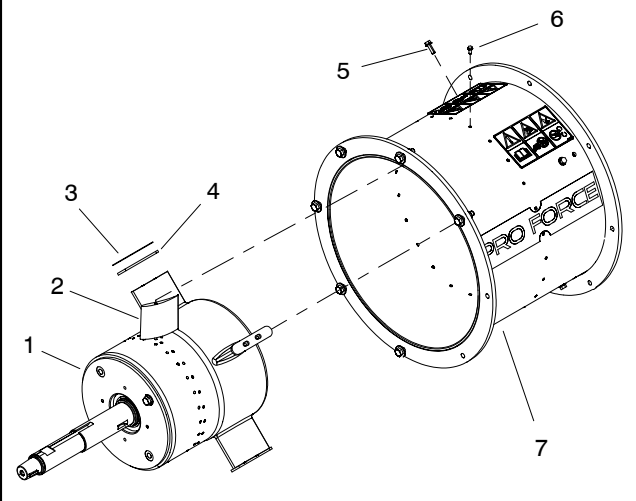

Figure 13
NOTE: Machines with serial numbers above 310000000 have a fin spacer and possibly additional thin spacers between inner housing flanges and outer housing (Fig. 13). Take note of location of spacers when removing flange head screws that secure inner housing.
12. Fully remove flange head screws (item 14) that secure inner housing flanges to outer housing.
13. On machines with serial numbers above 310000000, locate and retrieve fin spacers and thin spacers (if equipped) from between inner housing flanges and outer housing (Fig. 13). Note location of spacers for assembly purposes.
3. On machines with serial numbers above 310000000, install fin spacers and thin spacers (if equipped) between inner housing flanges and outer housing (Fig. 13).